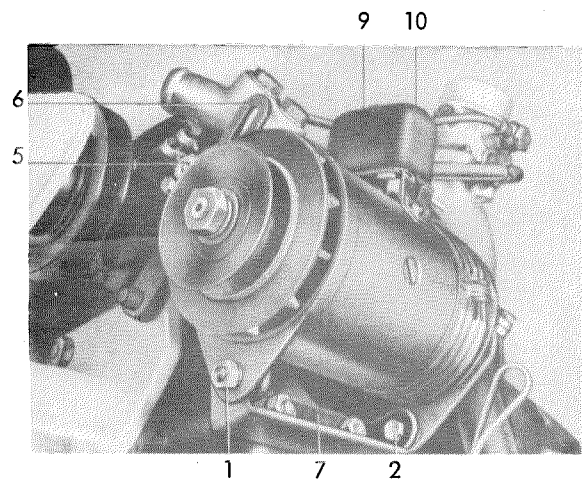

Figure 15-11/1
8. Screw the generator to the generator support with the two hexagon screws (1) and (2) (do not yet tighten) (see Figure 15-11/2).
Fix the ground lead with the hexagon screw (1) (see Figure 15-11/2).
9. Attach the generator support (6) to the generator with the hexagon screw (5) (see Figure 15-11/1).